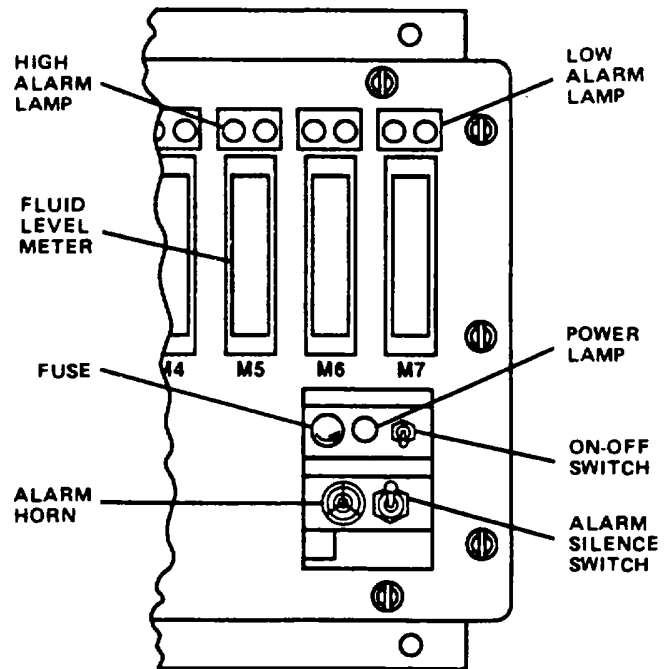
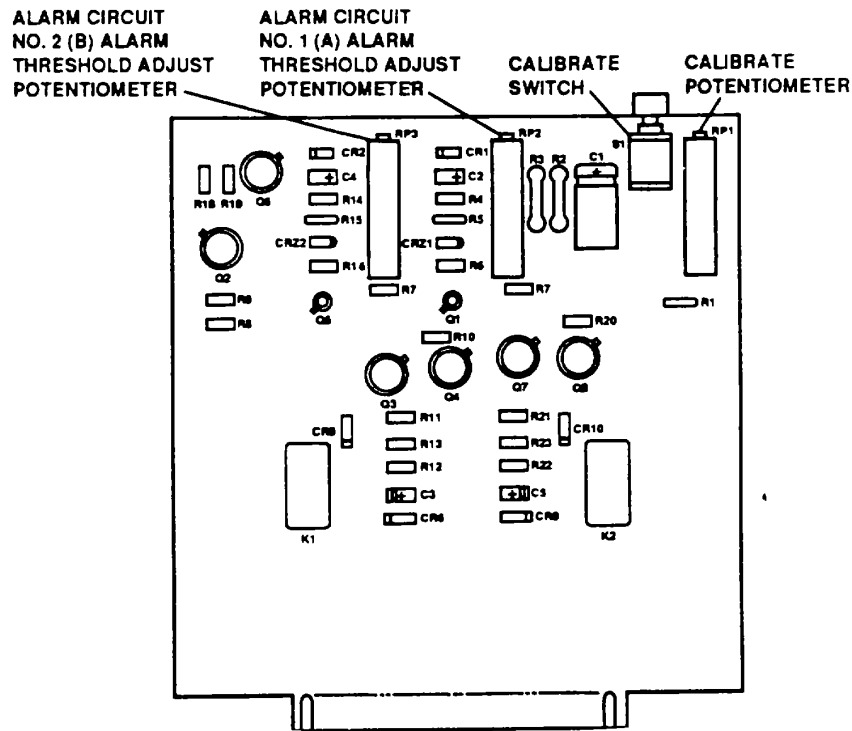
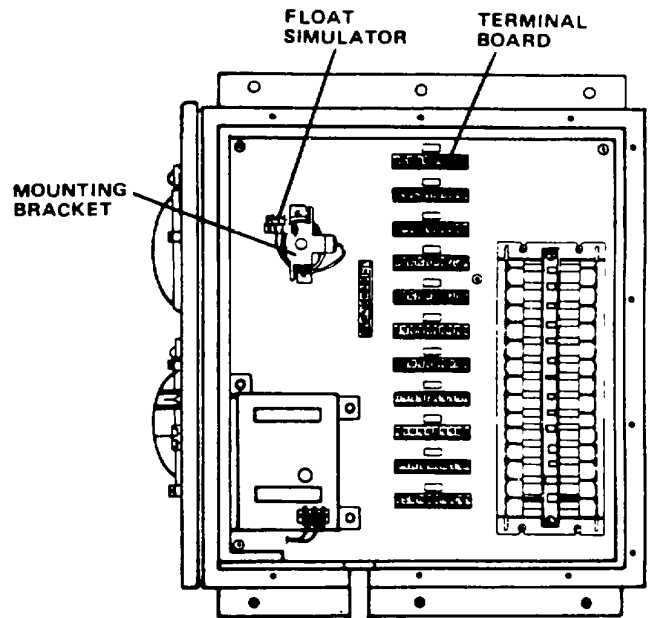

Figure 2-3. Receiver Panel. Full-Scale Adjustment.
Figure 2-4. Control Module Card.
Figure 2-5. Receiver Panel Float Simulator.
- a. Place the ON-OFF switch on the front panel in the ON position (Figure 2-3).
- b. Press the Calibrate switch on the control module with the same numerical designation as the meter being calibrated (Figure 2-4). Tank Level Indicators turn system circuit breaker to ON position and remove tag.
- c. Using a screwdriver, adjust Calibrate potentiometer (RP1) on the control module (Figure 2-4) with the same numerical designation as the meter being calibrated to the setting that causes deflection to the full-scale fluid indication mark.
- (1) Place ON-OFF switch on receiver panel to OFF position (Figure 2-3).
(2) Disconnect the red, black, and white cable leads connecting to terminals 1, 2, and 3 on the terminal board (TB10 or TB11) associated with the receiving circuits being adjusted.
(3) Disconnect the float simulator cable from the float simulator mounting bracket (Figure 2-5).
(4) Connect the red lead of the float simulator cable to terminal 1 of the terminal board associated with the receiver circuits being adjusted.
(5) Connect the black lead of the float simulator cable to terminal 2 of the terminal board associated with the receiver circuits being adjusted.
(6) Connect the green lead of the float simulator cable to terminal 3 of the terminal board associated with the receiver circuits being adjusted.
(7) Place ON-OFF switch on panel receiver to ON position (Figure 2-3).
(8) Adjust the FLOAT-SIMULATOR control (Figure 2-5) to bring meter deflection to the desired low-level alarm setting marked on the meter face.
(9) Adjust Alarm Circuit Threshold Adjust Potentiometer (Figure 2-4) on the low-level alarm control module printed circuit board associated with the meter that has deflected until the LOW ALARM lamp for that meter just lights (Figure 2-3).
(10) Adjust the FLOAT SIMULATOR control (Figure 2-5) to bring meter deflection to the desired high-level alarm setting marked on the meter-face.
(11) Adjust Alarm Circuit Threshold Adjust Potentiometer (Figure 2-4) on the high-level alarm
control module printed circuit board associated with the meter that has deflected until the HIGH ALARM lamp just lights (Figure 2-3).
(12) Place the ON-OFF switch (Figure 2-3) to OFF position.
(13) Disconnect the float simulator cable leads from the terminal board for the receiver circuits being adjusted and connect them to the float simulator mounting bracket.
(14) Connect the transmitter cable to the terminal board associated with the receiver circuits that have been adjusted, connecting the red lead to terminal 1, the black lead to terminal 2, and the white lead to terminal 3.
(15) Close the front cover of the receiver panel and secure it with the captive screws.
e. Place the receiver panel ON-OFF switch (Figure 2-3) in the ON position.
(1) At the center of the float on the lowest transmitter, or
(2) At the center of the float on the bottom station assembly when that float has been moved to the point at which the level link is actuated.
a. Place the ON-OFF switch (Figure 2-3) to the ON position.